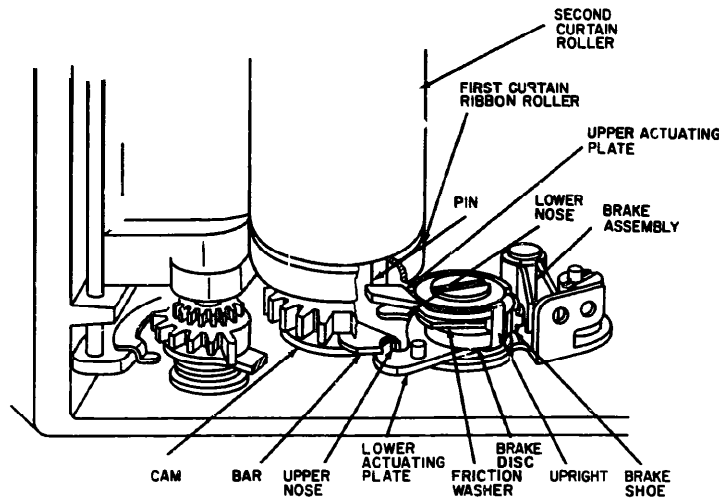

Figure 1-9. Brake action operation.
*e. Brake Assembly (fig. 1-9).* The brake is deactivated when the shutter is wound. When the shutter is released the first curtain traverses the film aperture and, near the end of its run, activates the brake.